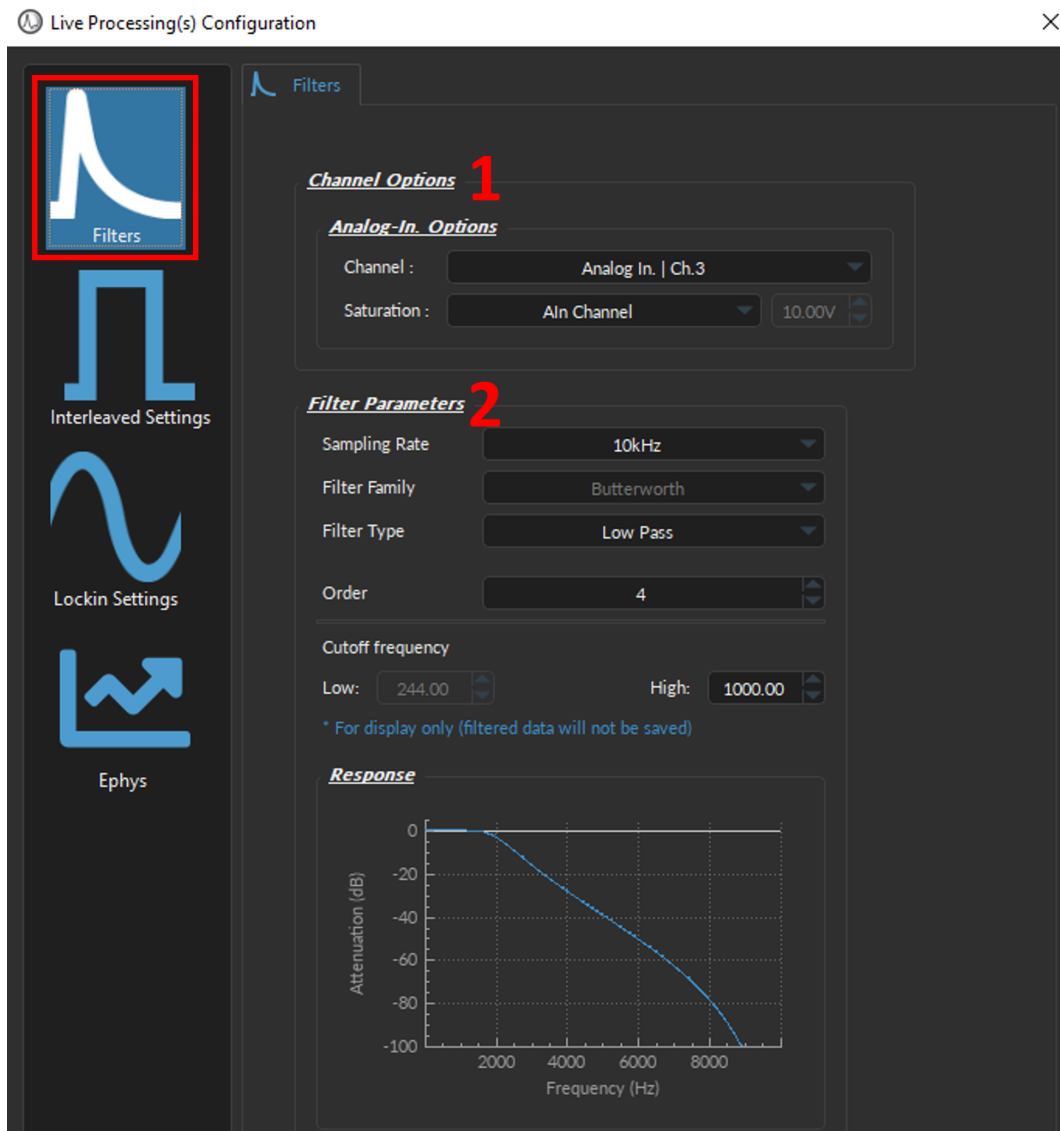

Figure 16.66: Live Processing, Filters
The **Filters** pre-set (Fig. 16.66) applies a filtering operation over raw data in real-time. This pre-configured process is used to remove noise and/or unimportant frequencies from the **Analog Input** data, including for electrophysiology and fiber photometry applications.
The **Filter** parameters are separated into two sections (Fig. 16.66) and include the following:
1. The **Channel Options** (Fig. 16.66, 1) contains the following parameters:
a) The **Channel** (Fig. 16.66, a) identifies which of the NC500 ports receives the analog input data from the sensor/device (Fig. 16.68).
2. The **Filter Parameters** (Fig. 16.66, 2) contains the following parameters: